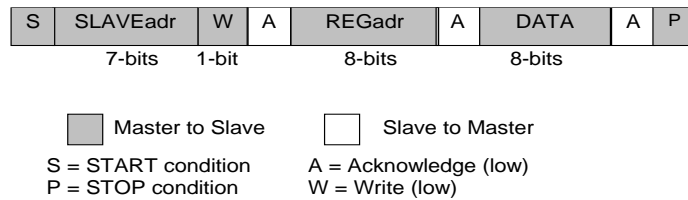
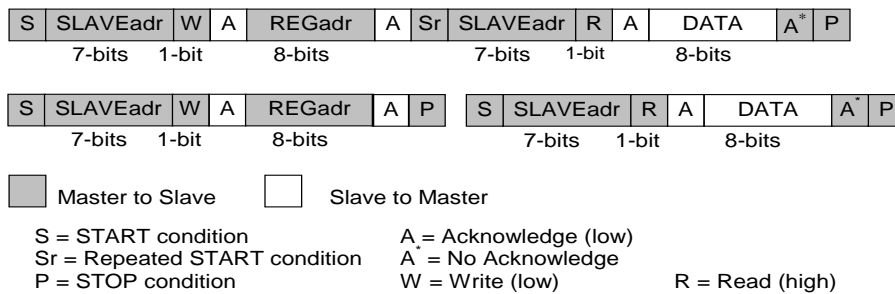

Figure 12: I²C Byte Write (SDA Line)
Figure 13: I²C Byte Read (SDA Line) Examples
The I²C bus is monitored for a valid slave address whenever the interface is enabled. It responds immediately when it receives its own slave address. The acknowledge is done by pulling the SDA line low during the following clock cycle (white blocks marked with A in Figure 12 and Figure 13).
The protocol for a register write from master to slave consists of a START condition, a slave address with read/write bit, and the eight-bit register address followed by eight bits of data, terminated by a STOP condition. DA9130-A responds to all bytes with acknowledge (A), see Figure 12.
When the host reads data from a register it first has to write to DA9130-A with the target register address and then read from DA9130-A with a repeated START, or alternatively a second START, condition. After receiving the data, the host sends no acknowledge (A*) and terminates the transmission with a STOP condition, see Figure 13.